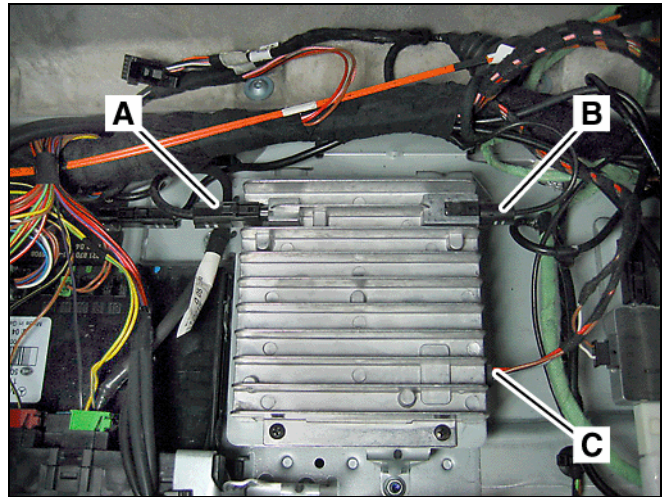

Figure 19
2. Connect the FAKRA antenna female connector to the linear compensator jack labeled “ANTENNA” (A, Figure 19).
3. Connect the FAKRA antenna male connector to the linear compensator jack labeled “PORTABLE” (B, Figure 19).
4. Connect the 4-pin power supply connector to the linear compensator (C, Figure 19).